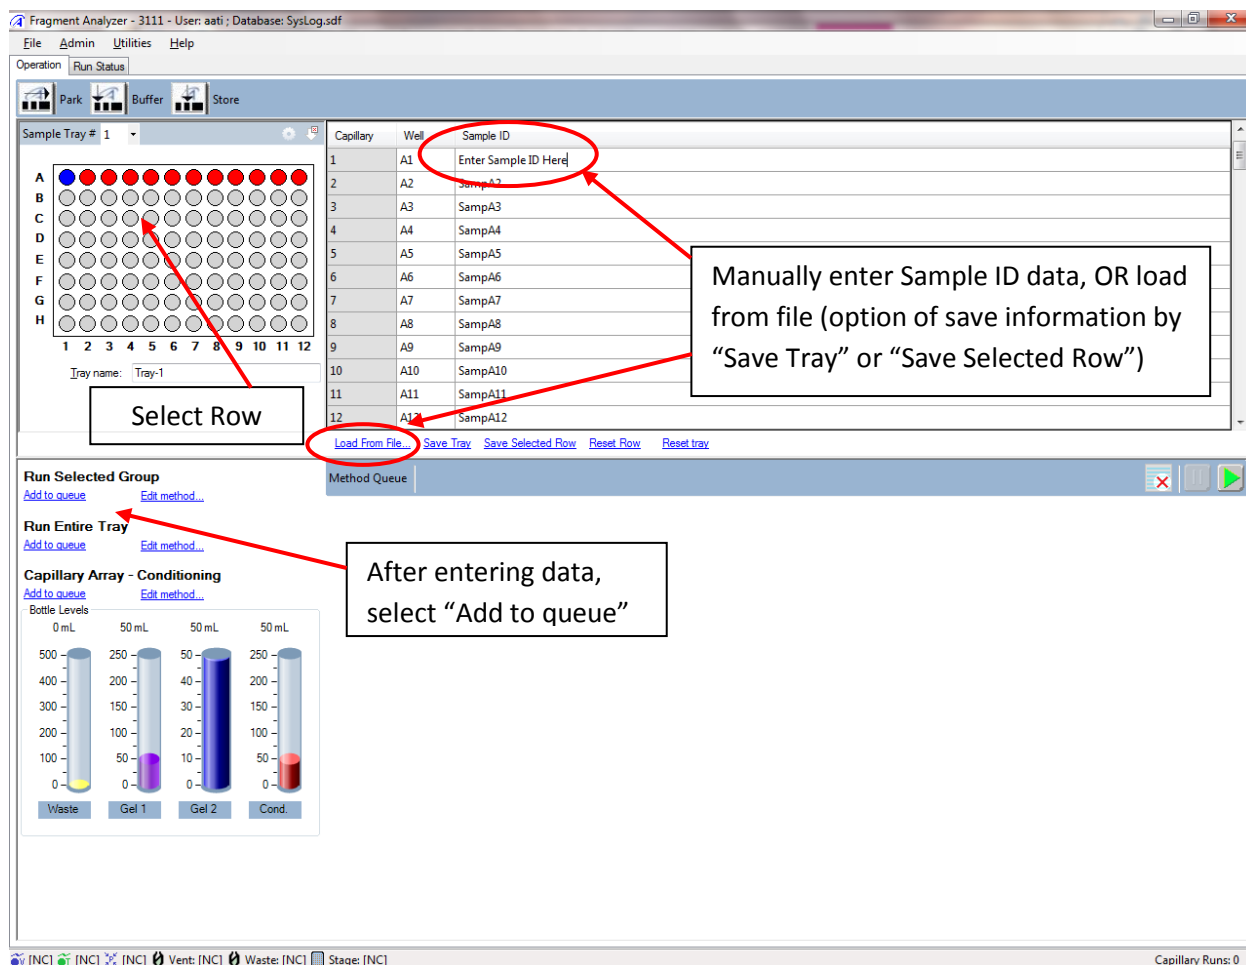

Figure 3. Main Screen showing selection of sample row and entering sample information
1. To set up an experiment, from the Main Menu of the *Fragment Analyzer*™ instrument control software, select the **Operation** tab (Figure 3). Select the sample tray location to be analyzed (1, 2, or 3) by left clicking the **Sample Tray #** dropdown or by clicking the appropriate sample plate tab (alternate plate view) and choosing the appropriate location. 48-Capillary or 96-Capillary Systems: Note that Sample 3 is typically assigned to the Capillary Storage Solution.
- Left click a well of the desired sample plate row with the mouse. The selected row will be highlighted in the plate map (e.g., Row A in Figure 3). Enter the sample name if desired into the respective **Sample ID** cell by left clicking the cell and typing in the name. Alternatively, sample information can be imported from .txt or .csv file by selecting the **Load from File...** option.